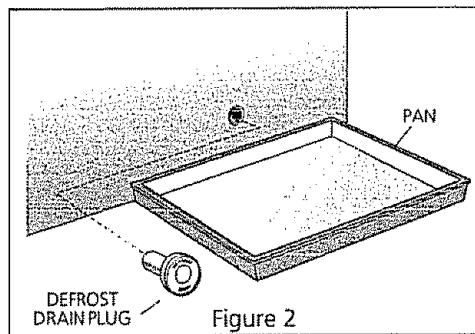
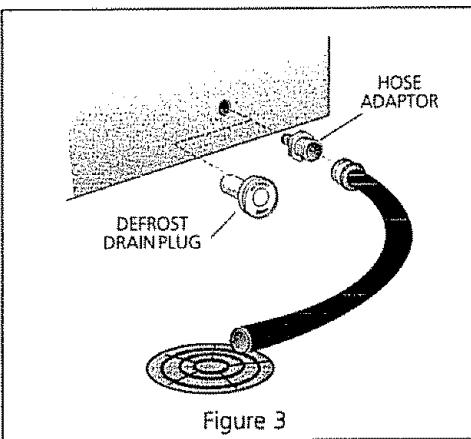
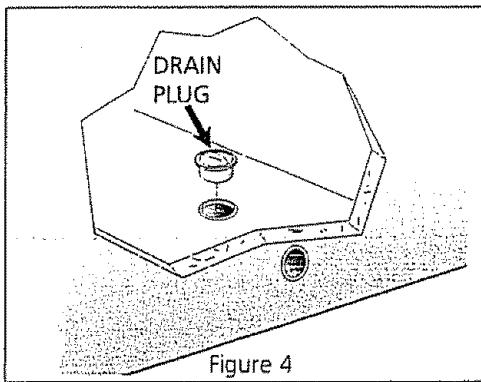

Figure 2
Figure 3
Figure 4
- At the top of the cabinet, lift up plastic hinge cover, and fold back. (Figure 2 below)
- On **chest models** with a defrost drain, place a shallow pan or the Divider/Drain Pan (some models) beneath the drain outlet (Figure 2). A one half inch garden hose adapter can be used to drain the freezer directly into a floor drain (Figure 3). Pull out the drain plug inside the freezer, and pull off the outside defrost drain plug (Figure 4 on following page).